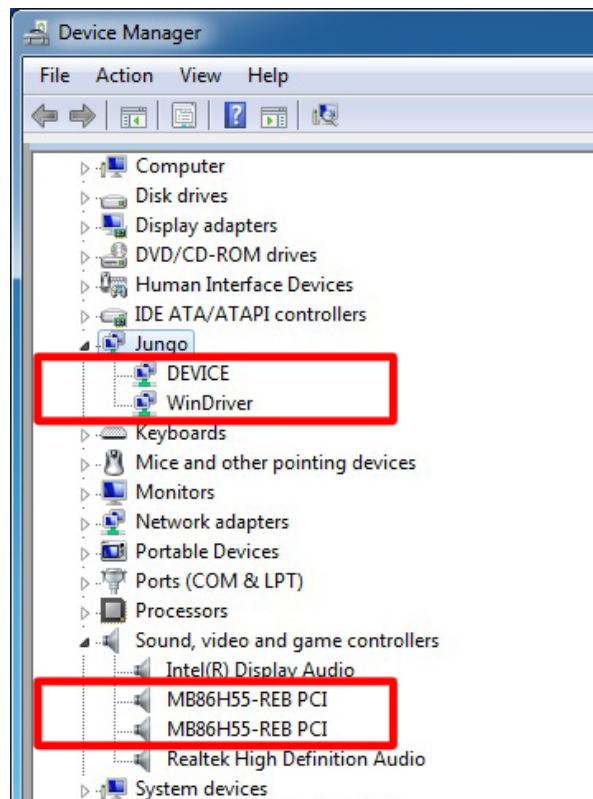

Figure 3-8: Device Manager – 64-bit OS
- Step 6:** Check the device manager in the Windows control panel to ensure the driver (MB86H55-REB PCI, DEVICE and WinDriver) has been properly installed. See **Figure 3-8** for the details.